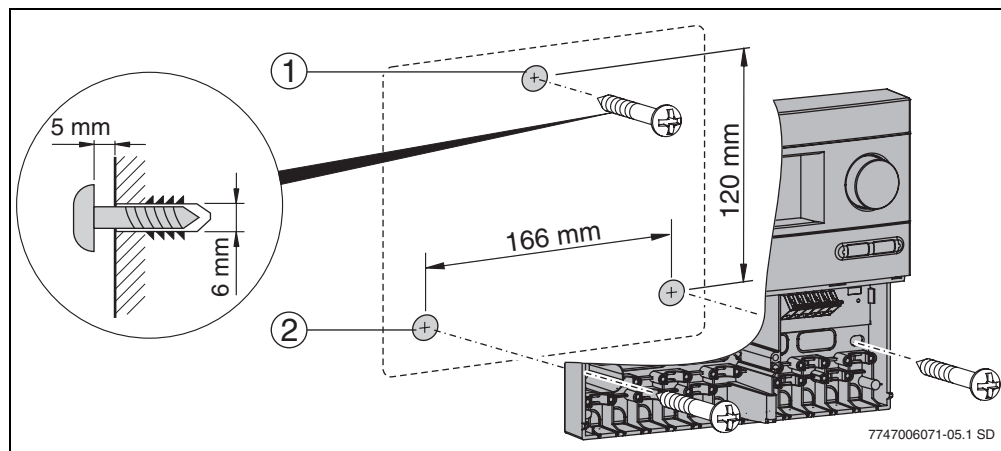

Fig. 4 Mounting the controller on a wall
- Drill a hole in the wall and insert a wall plug. (→ Fig. 4, item 1). Drive in a screw leaving the head proud by 5 mm. Slacken the screw at the bottom of the controller and remove the cover. Hang the controller on the wall by means of the slot in the rear panel. Mark out the lower mounting holes (→ Fig. 4, item 2), drill the holes and insert wall plugs. Straighten the controller and screw firmly in place through the lower mounting holes, left and right.